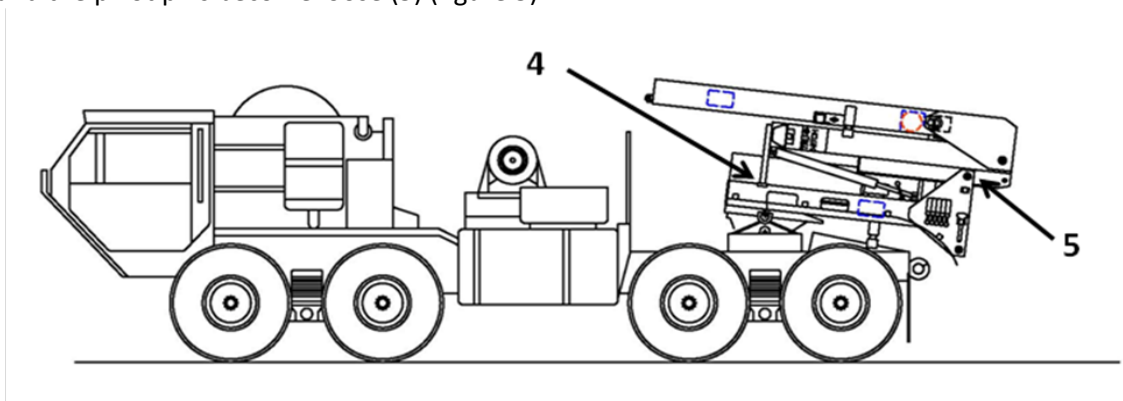

Figure 5 - FWTRD in retracted position on prime mover
- Using valve control levers, MAST RETRACT to fold mast until support legs rest on the main frame (4) and the pivot pins become loose (5) (figure 5)